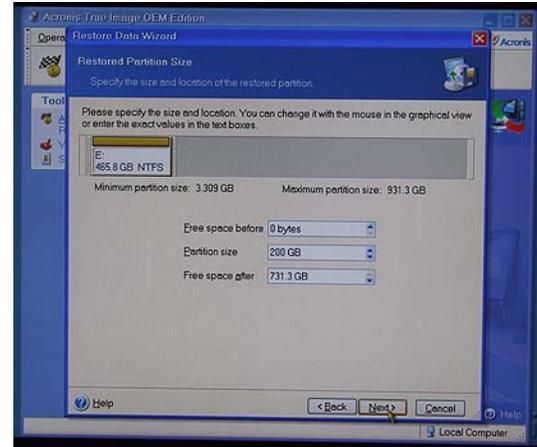

Figure 2-59
- 28) Select the **Active** item and then click the **Next** button to be presented with the **Restored Partition Size** page (Figure 2-59).